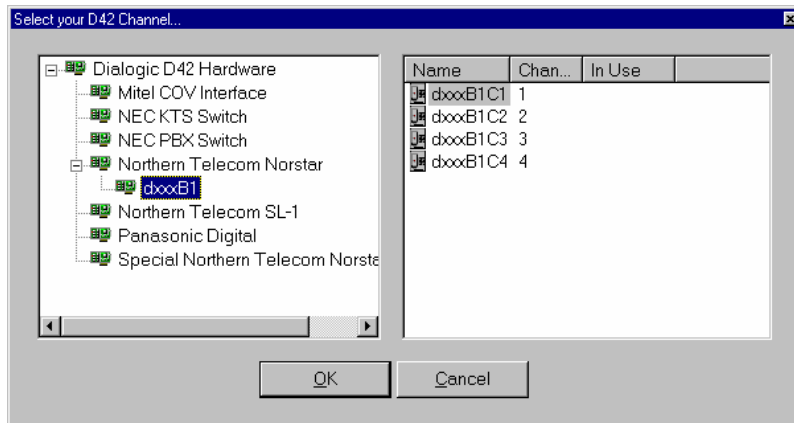

Figure 24. Select a D/42 Channel
12. Choose a board listed below the applicable PBX integration board (Example: dxxxB1 under the Northern Telecom Norstar). A channel list is displayed in the right-hand window, as seen in Figure 24.